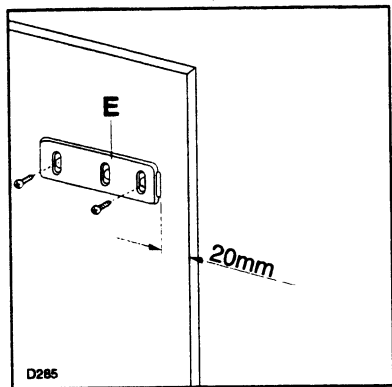

Fig. 7
Position the runners (E) at the top and bottom of the inside of the kitchen unit as shown in Fig. 7 and mark the position of the external holes. After preparing the holes, screw the runners to the kitchen unit door using 3.5x16 mm screws.